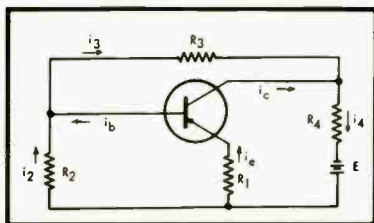

Fig. 1. Circuit used in example. See text.
In the woofer illustrated in Fig. 1, a remarkable increase in compliance has been obtained by discarding the usual corrugations at the rim of the cone. Instead the piston portion of the cone is suspended from a ring of special plastic foam which has great flexibility and allows large axial motion before mechanical restriction is encountered. Fundamental resonance has been set at 24 cps which represents the lowest useful frequency without sacrificing stability. Further reduction of fundamental resonance would probably increase cost. Laboratory models have been constructed with a resonant frequency as low as 4 cps, but this is more interesting experimentally than for general use.
Consider the amplifier stage shown in Fig. 1. Only the d.c. components are shown—for instance, capacitors are omitted, since they will pass no d.c. The resistors R_1 , R_2 , R_3 , and R_4 may be in any form—they may represent the resistance of transformer windings, for instance.
Again referring to Fig. 1, we have the following conditions imposed by the circuit:
which assumes that the collector current is independent of the collector voltage. In Eqs. (1) to (6), the currents are as labeled in Fig. 1. These six equations are sufficient to eliminate the five unwanted variables i_b , i_e , i_2 , i_3 , and i_4 , leaving one equation relating i_c , i_{co} , α , and the various circuit constants R_1 , R_2 , R_3 , R_4 , and E . This relation, setting i_e all by itself on one side, is: